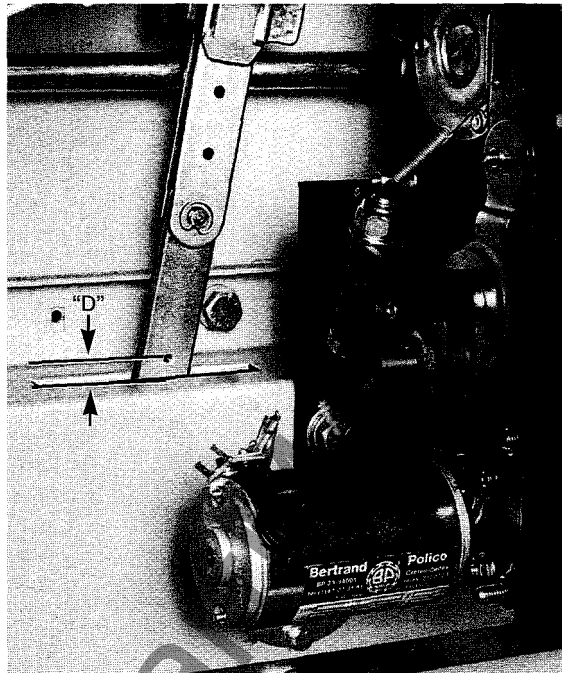

Figure 32: Contact wear measurement
11. Measure and record the vertical distance from the top of the frame to the center of the red dot (figure 32).